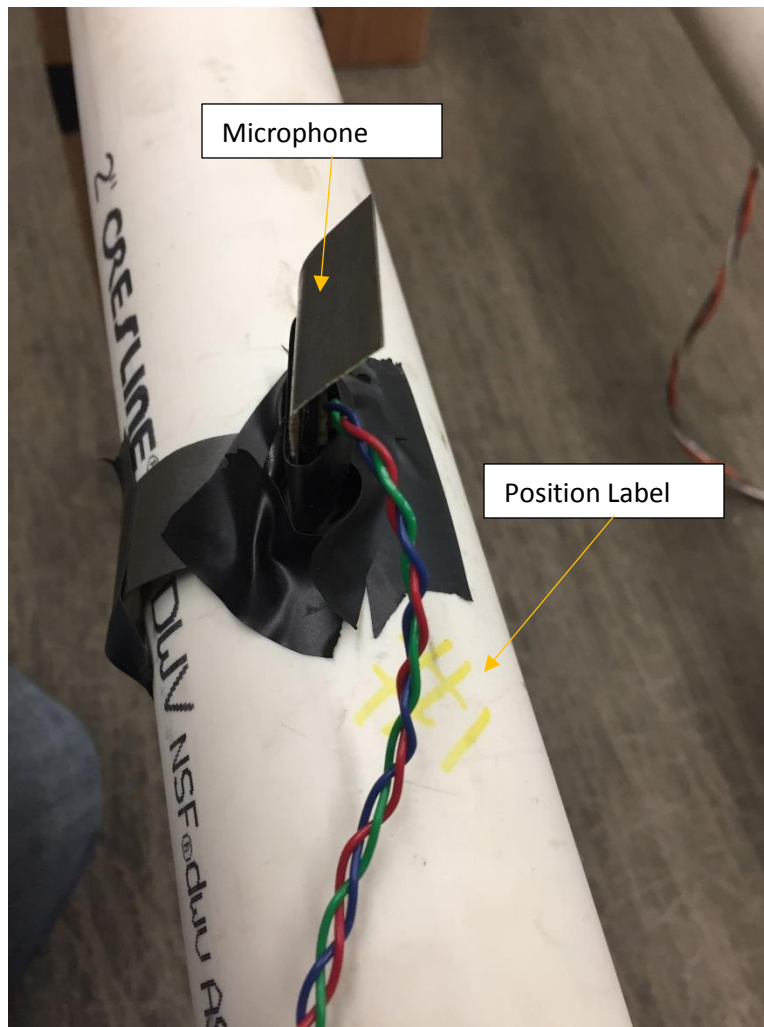

Figure 6: Mic attached to Pipe using Elec. Tape
Use electrical tape to secure the mic to the PVC pipe. See Figure 6.
- c. Place electrical tape around mic hole opening to ensure a tight seal around the mic inlet hole and the mic. See Figure 6.